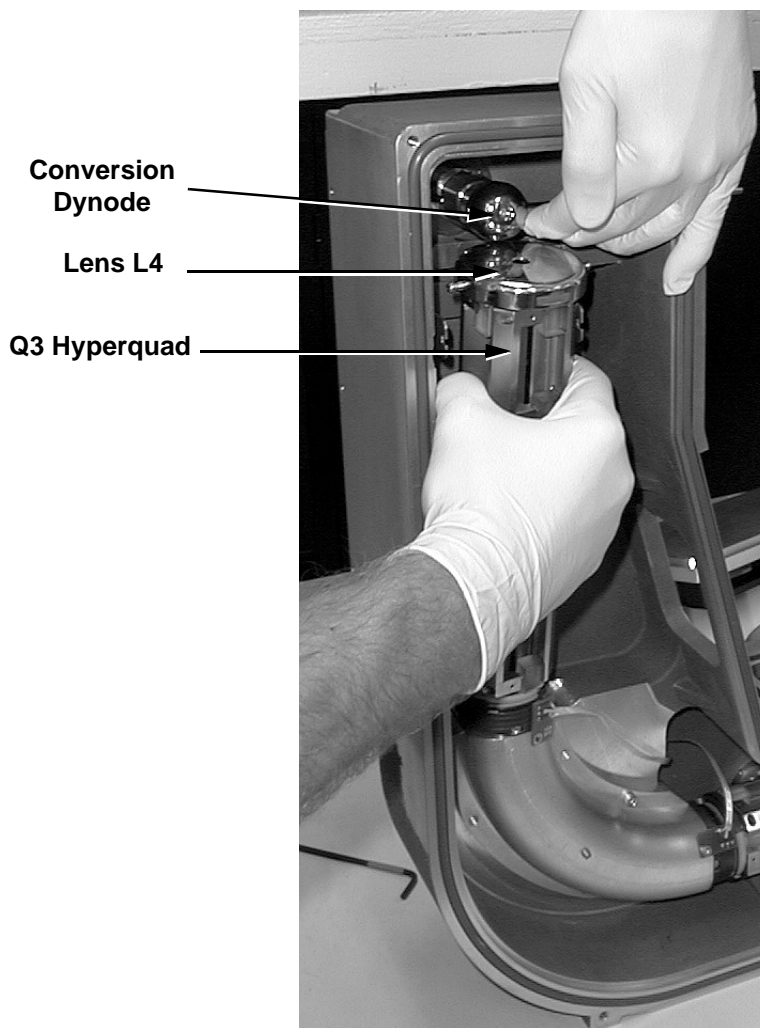

Figure 5-23. Q3 hyperquad and lens L4 removal
8. Carefully reconnect the two leads from the lead pins on the Q0 quadrupole. See Figure 5-23.
- b. With one finger flexing the shaft of the conversion dynode up, tilt the top end (exit end) of the Q3 hyperquad out and away from the conversion dynode. See Figure 5-23.